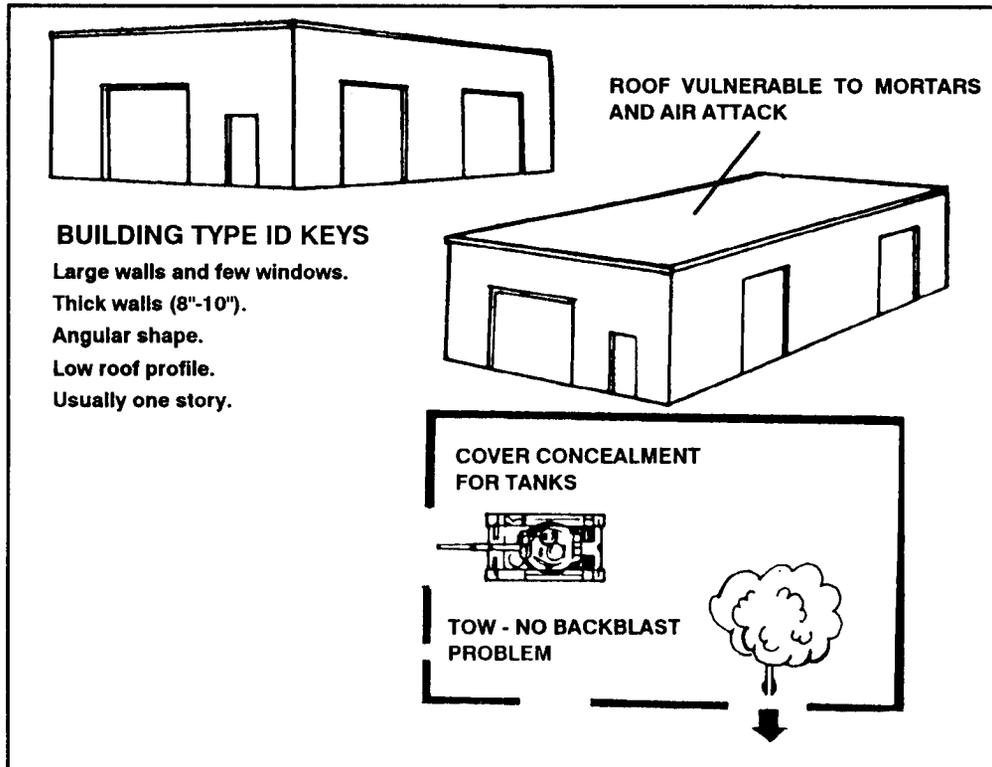

Figure H-4. Warehouse.
b. Another common mass-construction building in industrial areas and along commercial ribbons is the warehouse. It is built of poured-in-place concrete reinforced with steel bars or of prefabricated walls that are "tilt-up." The walls of warehouses provide good cover, although the roof is vulnerable. The warehouses' large open bays permit firing of ATGMs and, because they are normally found in outlying areas, often afford adequate fields of fire for ATGMs. These buildings are built on slabs, which can normally support the weight of vehicles and can provide excellent cover and concealment for tanks (Figure H-4).